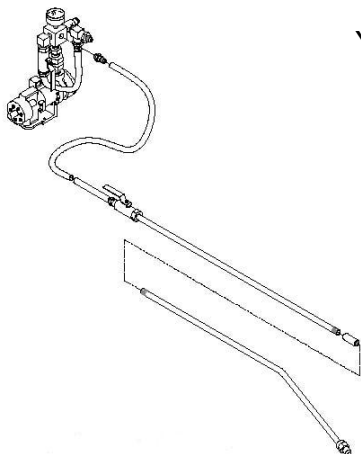

Fig. 6 - Spray Hose & Wand Connection
4. Join the two section of the sprayer wand together using the pipe coupling provided. (See Fig. 6)
5. Attach the spray hose to the last fitting on the sprayer block assembly. (See Fig. 6)